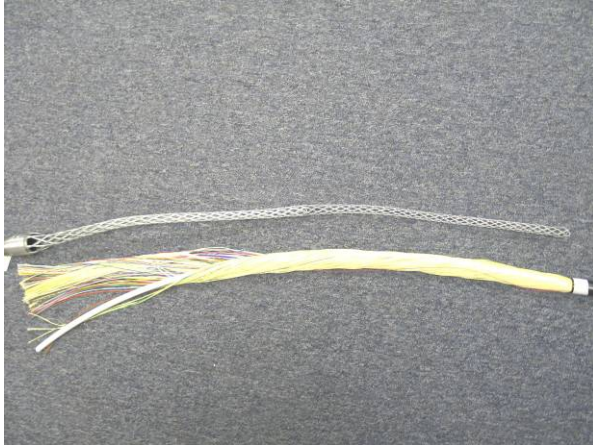

Figure 15: Outer Jacket Removed from First Mark to End of Cable
Step 10: The outer jacket must be removed from the first mark towards the end of the cable (See Figure 15).